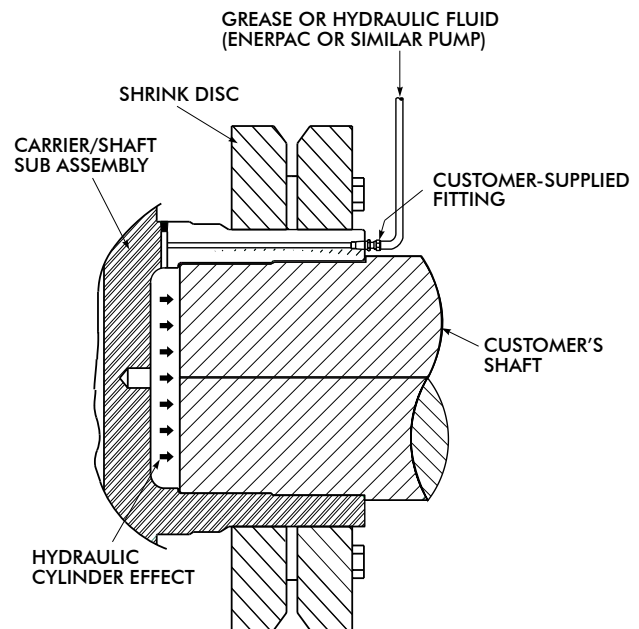

Figure 5.2
- C. Utilize 'hydraulic advantage' by accessing ports (1/8-27 NPT) located on hollow shaft face, and on outer diameter of hollow shaft (Figure 5.2).